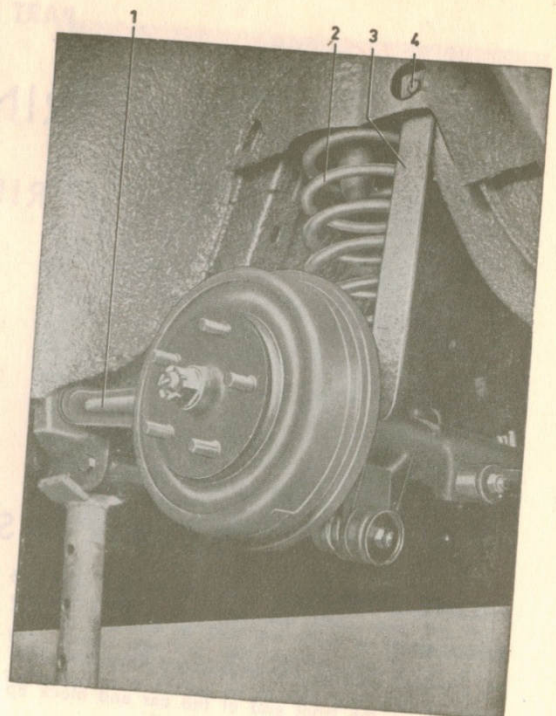

Fig. 9-3. Rear spring
- absorber band (4, Fig. 9-3) on both sides. Slacken the front support arm attachment slightly.
Shock absorbers bands (3, Fig. 9-3) are fitted between